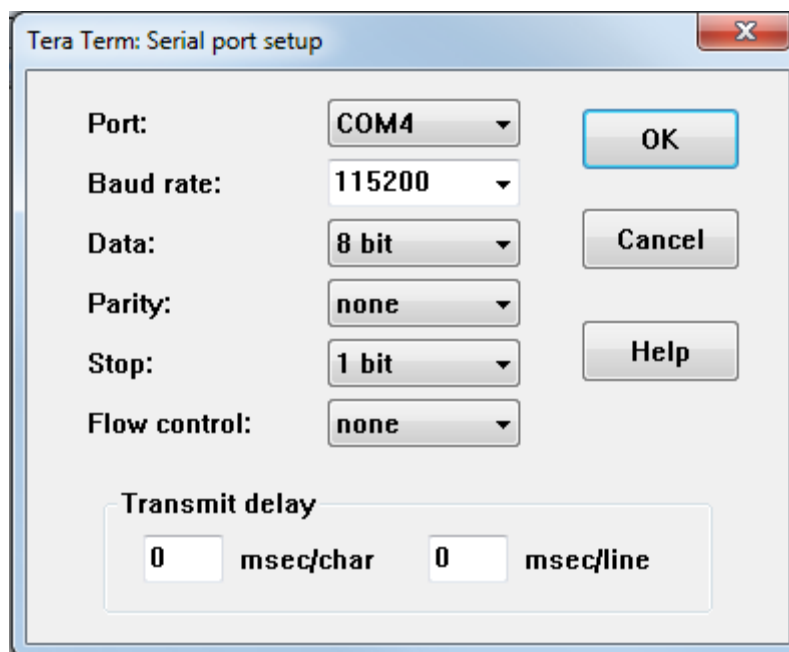

Figure 9 – Connect Tera Term to the proper COMx port
3. On the PC, open a serial terminal program. Tera Term is used to show the example output for this lab document. Follow the instructions in the CP210x Setup Guide to set the terminal as shown in Figure 9, using the appropriate COM port that you discover on your own machine.